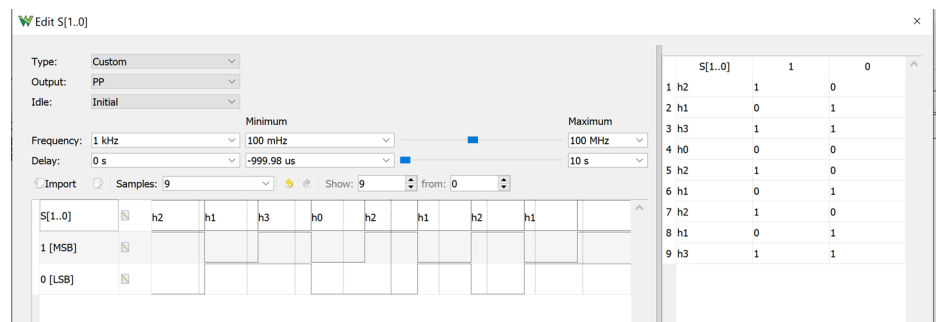

Figure 13: Setting up a Custom Bus
**Custom:** You can output values with a custom pattern. This can be very useful when you want to test only specific combinations (for example when you have don't cares or many inputs to your circuit) or you want the inputs of the circuit to change in a specific pattern or you want the Pattern Generator to match your waveform on Quartus. You can use Parameter1 to change the frequency of your pattern. Select the parameters button to make your custom pattern see Figure 13. Choose the amount of samples you want to
output (the amount of values in your pattern). You can either choose one of the defaults or type in a specific number. Now choose how many samples you want to show at once. It is suggested that you choose 10 at a time. You can scroll through your values by selecting the arrows next to the from or typing in a number. There are two ways to enter in the values for your pattern. You can physically move the lines by clicking the top or bottom of the signal to make it go high to low. However, you should generally manually type in the numbers in the table. Either you can type in the full number in the first column or you can change the signal number from 0 to 1. To save a custom pattern for future use, open parameters and press the export button as seen in Figure 13 and press save. To input a custom pattern, press the input button, select your pattern, and press open.